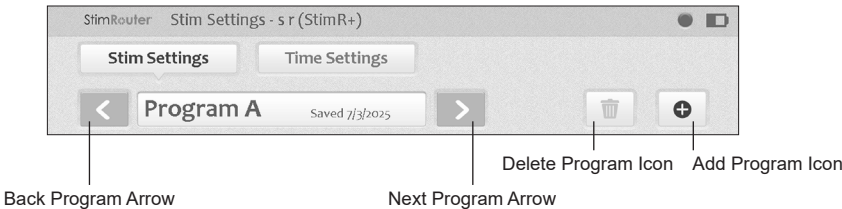

Figure 8-12: Program icons on the program bar
1. From the Stim Settings Window or Time Settings Window press the add program icon on the Program Bar. **See Figure 8-12.**
2. Press the delete program icon on the Program Bar. **See Figure 8-12.**